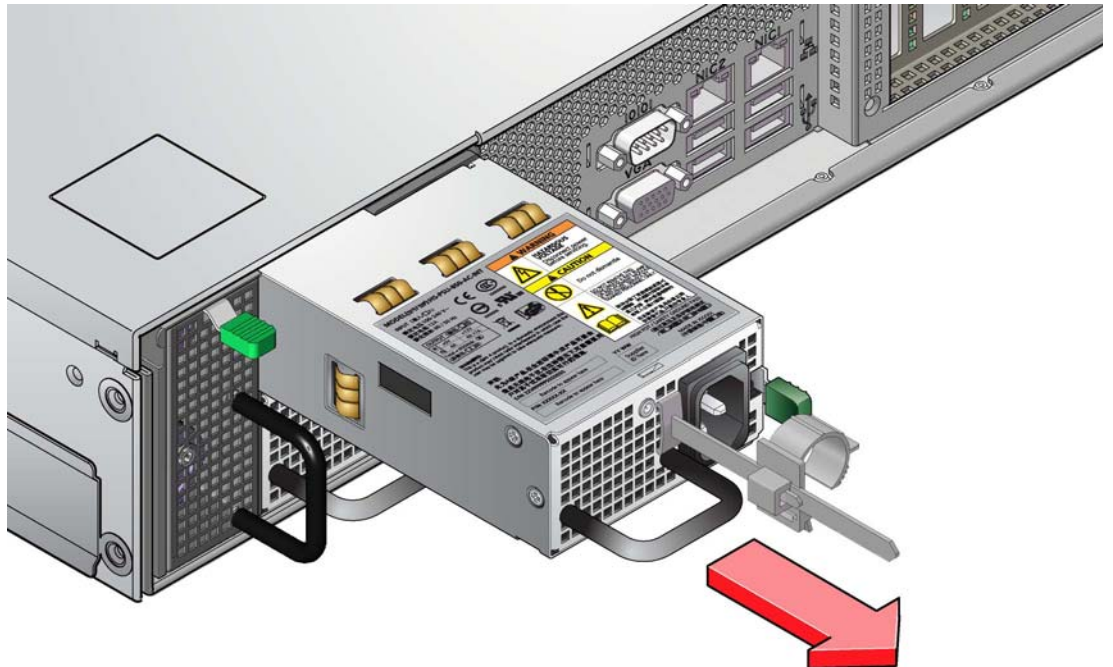

Figure 6-3 Removing a PSU (2)
- 4 Grip the handle and withdraw the PSU from the mounting cage (Figure 6-3).